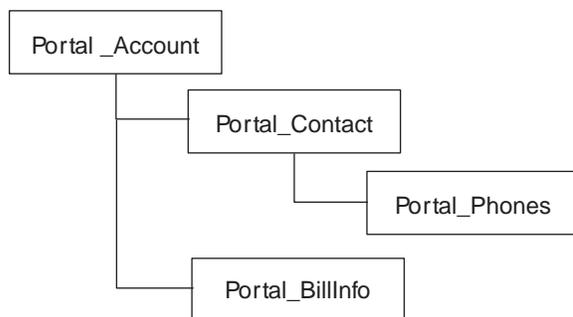

Figure 12. Diagram of the Portal\_Account hierarchical business object
**Building flists for create operations:** The Portal\_Account business object is a hierarchical business object that looks like Figure 12.